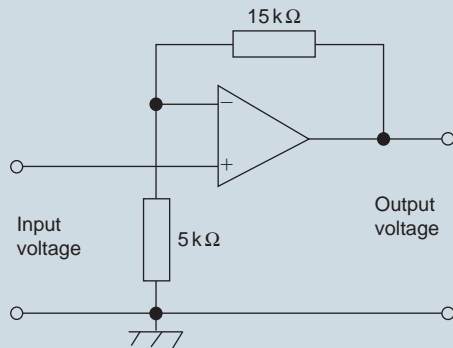

Figure 21.27
6. In the op amp shown in Fig. 21.27, the voltage gain is: